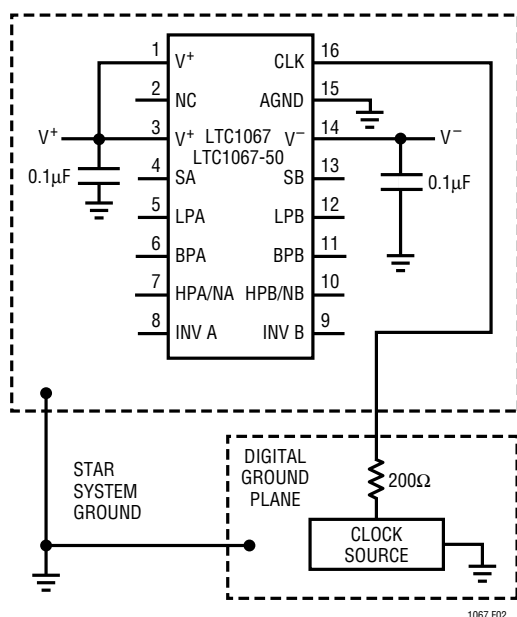

Figure 1. Dual Supply Ground Plane Connections
**V+, V- (Pins 1, 3, 14):** The V+ (Pins 1, 3) and the V- (Pin 14) should each be bypassed with a 0.1μF capacitor to an adequate analog ground. The filter's power supplies should be isolated from other digital or high voltage analog supplies. A low noise linear supply is recommended. Using a switching power supply will lower the signal-to-noise ratio of the filter. The supply's power-up slew rate should be less than 1V/μs. When V+ is applied before V-, and V- is allowed to go above ground, a diode should clamp V- to prevent latch-up. Figures 1 and 2 show typical connections for dual and single supply operation.